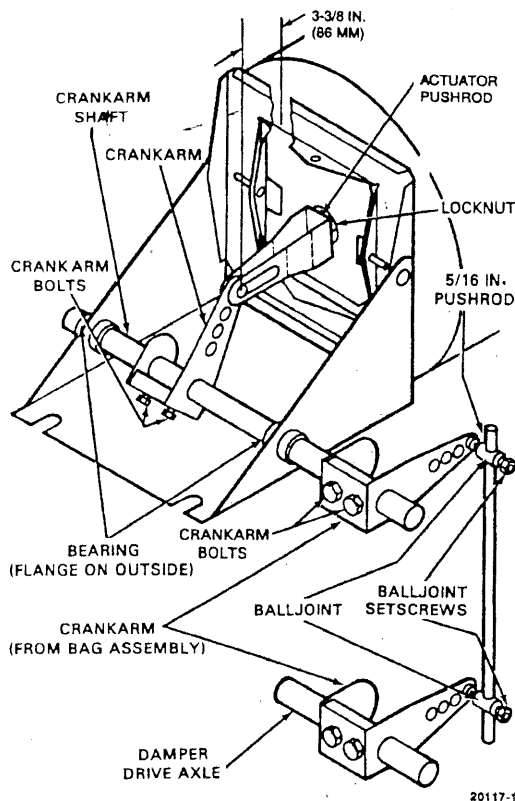

Fig. 21. Alternate Top Mount Crankarm Installation.
- Loosen locknut and screw or unscrew actuator pushrod to dimension shown in Figure 21. Tighten locknut.
- Fit white plastic bearings into place (Fig. 21) with flange on outside of mounting bracket.
- Slide crankarm shaft through crankarm connected to actuator pushrod (Fig. 21).
NOTE: Crankarm shaft can be extended to either side (Fig. 21).
8. Tighten bolts on crankarm connected to actuator pushrod (Fig. 21).
12. Connect one crankarm from the bag assembly to the extended end of the crankarm shaft (Fig. 21).
13. Connect the remaining crankarm to the damper drive axle (Fig. 21).